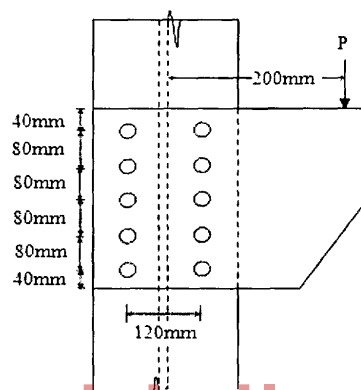

Fig.1
12. (a) Determine the safe load P that can be carried by the joint shown in Fig.1. The bolts used are of 20mm diameter of grade 4.6. (13)